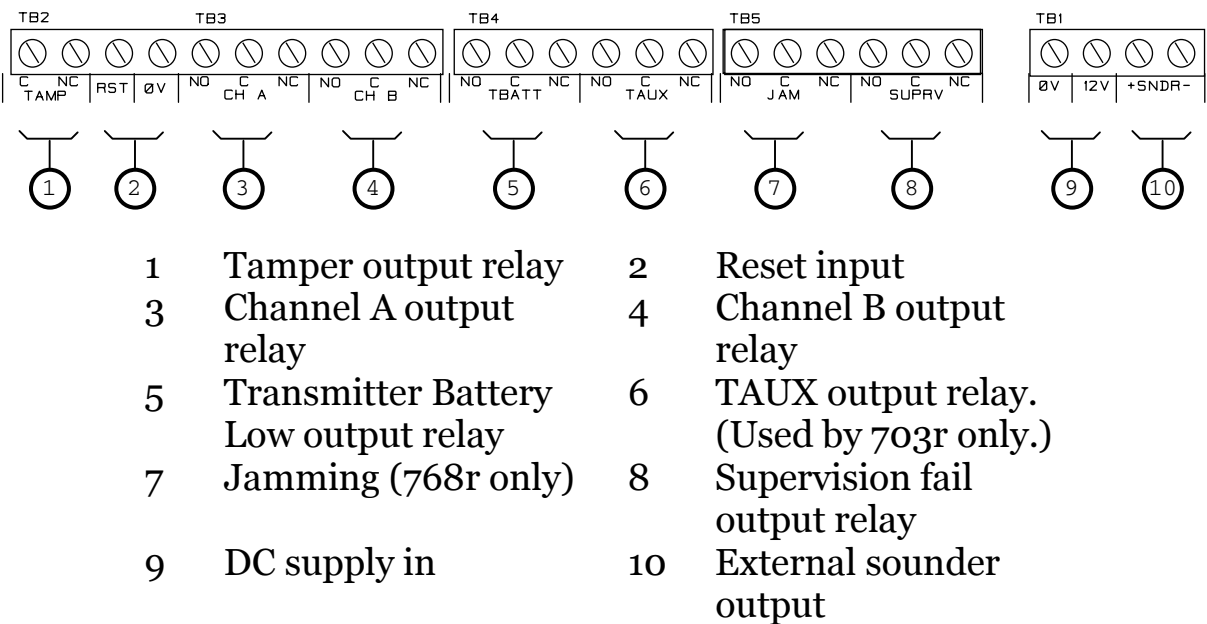

Figure 7. PCB Main Connector.
The 0V and 12V input terminals on the main PCB (see Figure 7) and the 12V supply from 768r to 769r are protected against reverse connection and short circuit. The protection is provided by polyswitches.
Figure 7 shows in detail the connectors available on the main PCB.
1. Connect a suitable 12VDC power supply to the DC supply in connector (see Figure 7).